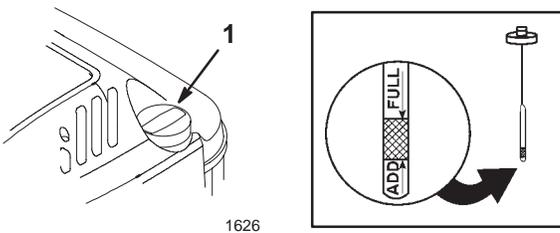

Figure 5
Before each use, make sure that the oil level is between the *Add* and the *Full* marks on the dipstick (Fig. 5).
2. Clean around the dipstick (Fig. 5).
6. Read the oil level on the dipstick (Fig. 5).